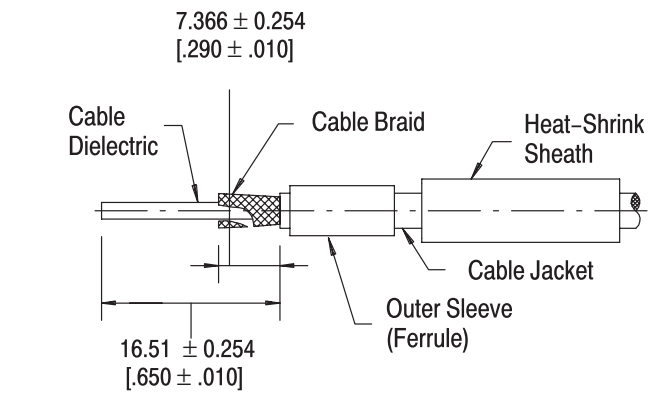

Figure 2
2. Strip the end portion of the cable, to expose the cable braid. Refer to Figure 2.